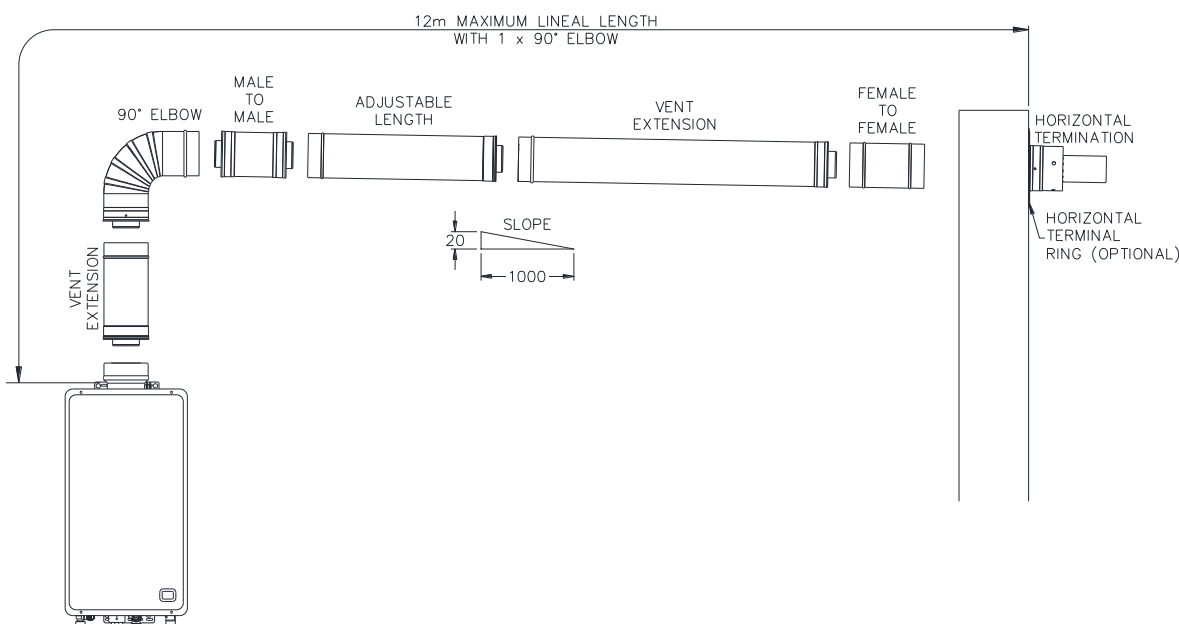

Figure 19- Typical Installation – Horizontal Terminal with One Elbow
- Use Male to Male and Female to Female Adapters to reverse the direction of flue insertion where three or more sections of flue are used in a horizontal flue run and the flue drains toward the flue terminal. Refer to **Figure 19- Typical Installation – Horizontal Terminal with One Elbow** on **page 49**.